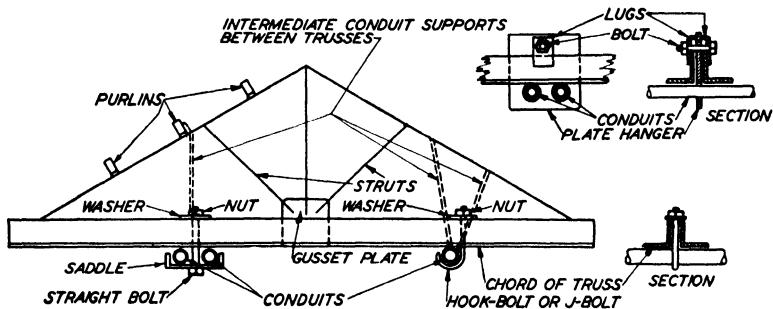

Fig. 44. Method of Attaching Conduit to Steel Roof Truss
**Supports on Steel-Truss Roofs.** In buildings with this type of roof construction the chord, or bottom member of the truss, Fig. 44, frequently consists of two angles, set side by side. The two vertical legs of the truss are adjacent, but separated by steel gusset-plates, to which the struts and other members are riveted. Through this
space, varying from  $\frac{5}{16}$  inch to  $\frac{1}{2}$  inch, a hook bolt can be passed to hold the conduit. The threaded upper end is provided with a washer and nut. The arrangement of a single and double run of conduit is shown in Fig. 44. The nut and washer on the bolt will "ride" better if the bolt is made at least twice as long as the outside diameter of the conduit. Instead of the hook-bolts you can use plate hangers, also shown in Fig. 44.
conduit and bolted, the other end extending to the roof planking or to one of the purlins supporting the latter, as shown by the dotted lines in Fig. 44. Put on two such straps if the conduit is so far off-center from a purlin that a single strap would pull the conduit out of line, as shown in connection with the single conduit run; or, place an auxiliary member between the purlins, for supporting the conduit.